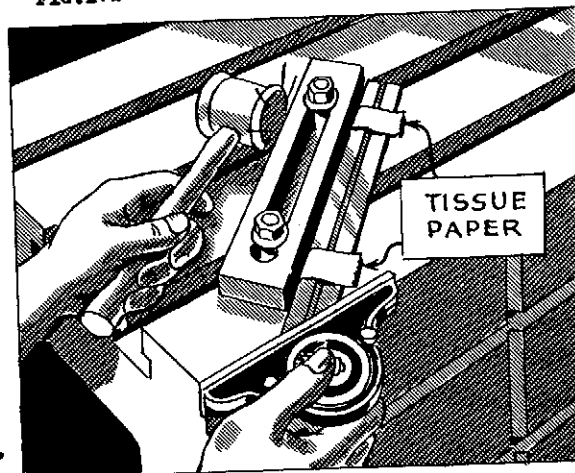

FIG.173
9. Place two pieces of tissue paper over the strip; press the protractor against the edge of the table, and move it forward until the blade grips the two pieces of paper (Fig.173).